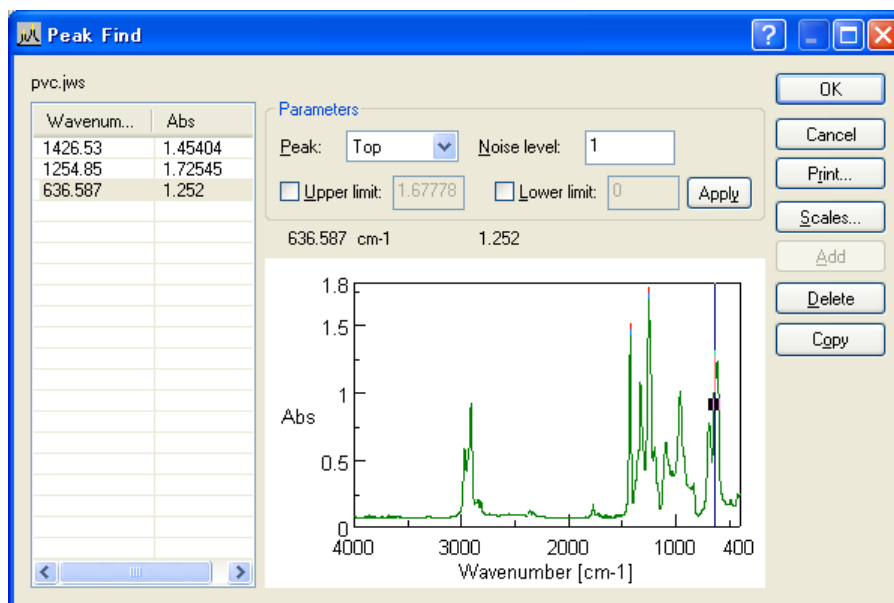

Figure 2.8 [Peak Find] dialog box
- (1) Select [Processing] - [Peak Processing] - [Peak Find...] to display the [Peak Find...] dialog box (Fig. 2.8).